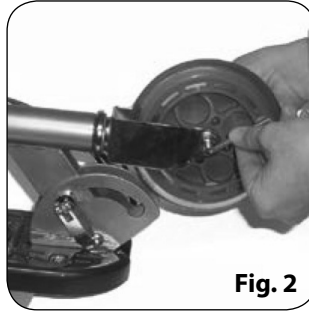

Fig. 2
3. Secure the front wheel using the enclosed tools to tighten the front wheel nut/bolt. See Fig. 2.